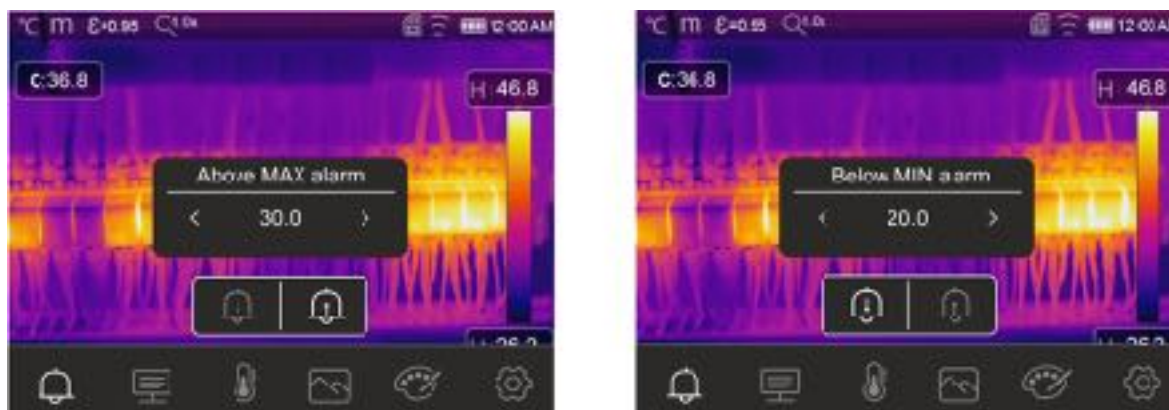

Fig. 41: Setting of limit thresholds on alarms
3. Touch the icon “” to define the **high** threshold value associated with the alarm. The screen in Fig. 41 – left side appears on the display.
5. Touch the icon “” to define the **low** threshold value associated with the alarm. The screen in Fig. 41 – right side appears on the display.